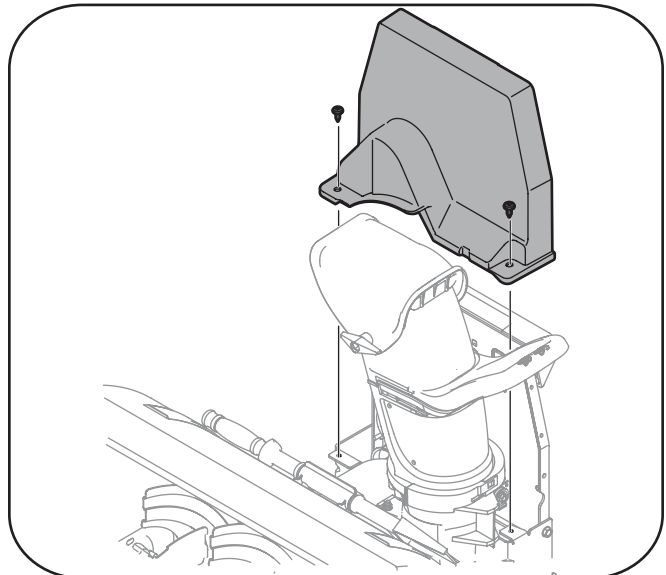

Figure 7-3
3. Remove the two self-tapping screws shown in Figure 7-3, and lift the belt cover up and away from this device. Set it and the screws aside and save.